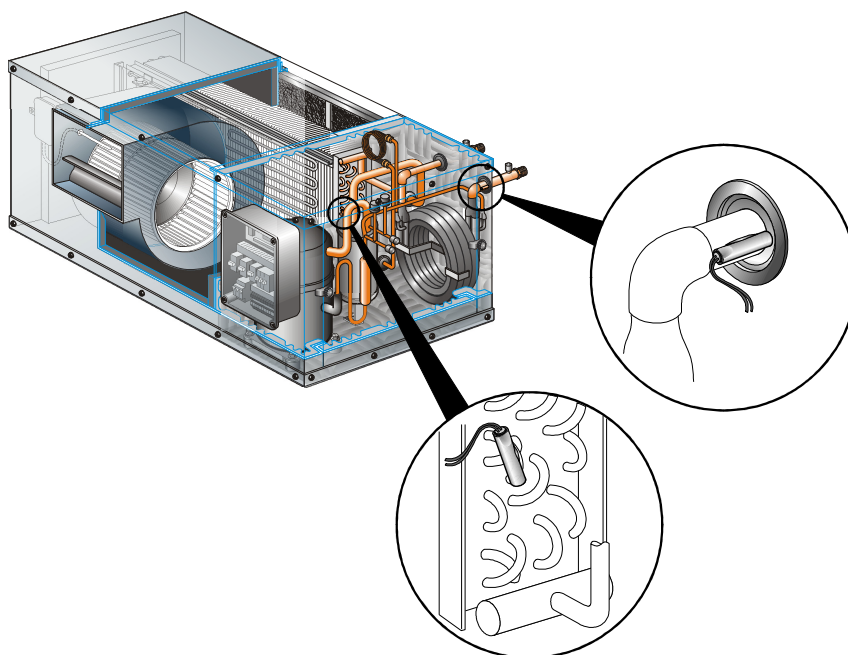

Fig. 7-4
- See Fig. 7-4 for identification.